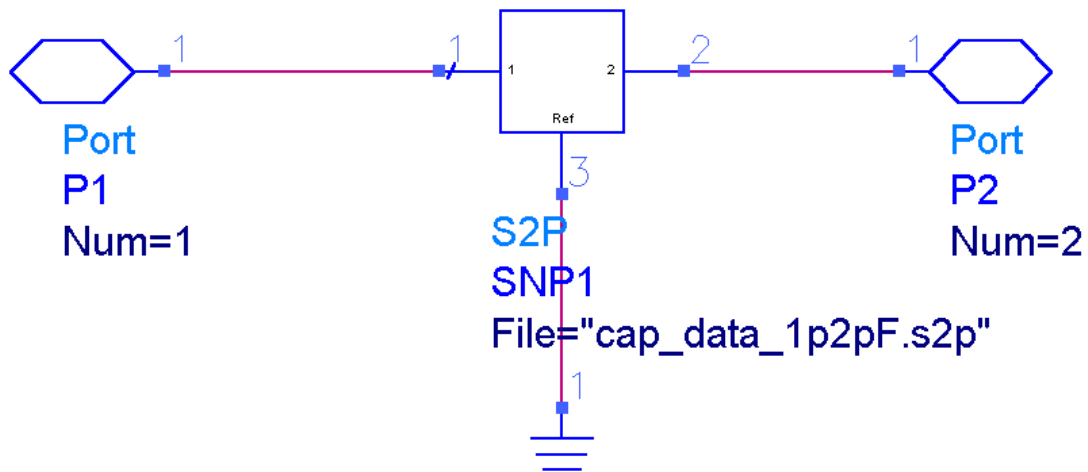

Figure 2. Schematic used to reference an s2p datafile ("data circuit").
- 1) Use the approach outlined in Procedure #3 to create a circuit schematic that references a .s2p data file. Attach a Port (not Termination) to each side of the schematic. (See Figure 2). Use the schematic name cap\_data\_1p2pF\_XXX, **where XXX are your initials**.
At this point you should have schematics that resemble Figure 2 through Figure 4.